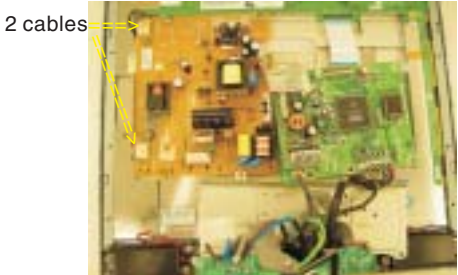

Fig.9
Step 4. Disconnect the 2 cables as Fig.9